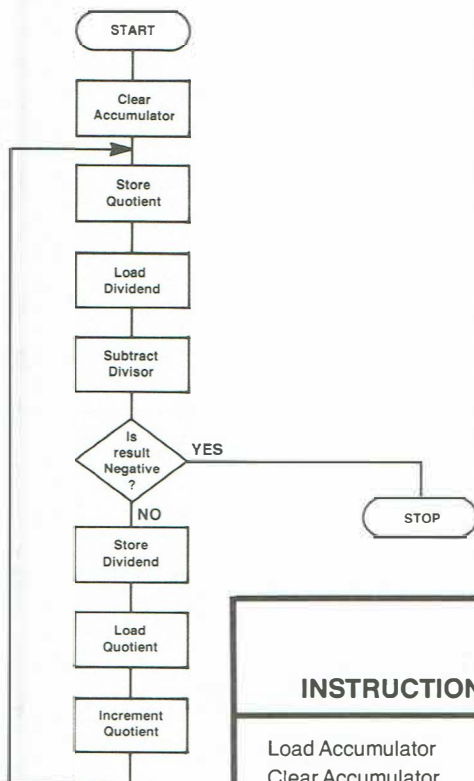

Figure E7-10
20. In Unit 5, we discussed a program that divides by repeated subtraction. The flow chart for this program is shown in Figure E7-10. Using this flow chart as a guide and the instructions presented in Figure E7-11, write a program that divides by repeated subtraction. Use a starting address of 0050.